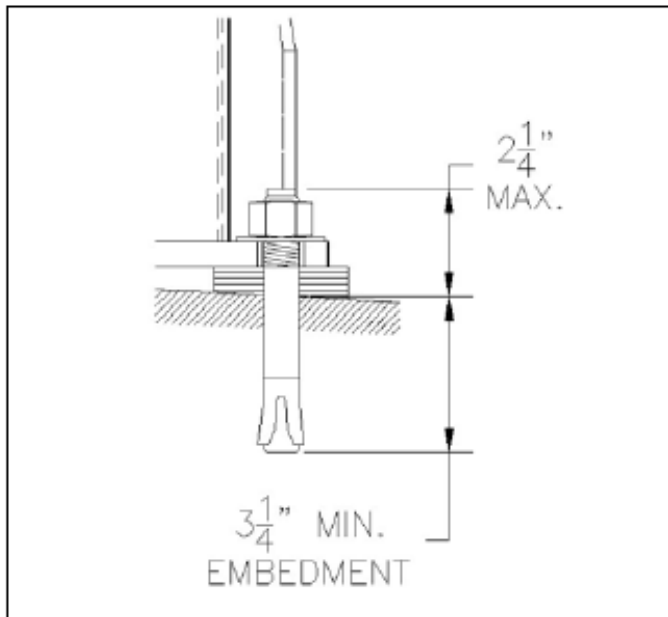

Figure 29: Embedment
8. Check the distance from the top of the anchor to the floor. If this dimension exceeds 2 1/4" due to floor slope, **DO NOT** use the supplied anchors. Longer anchor must be used. See **Figure 29**.
NOTE: The 3/4" × 5 1/2" lg. wedge anchor bolts supplied must have a minimum embedment of 3 1/4" into concrete floor (see **Figure 29**).